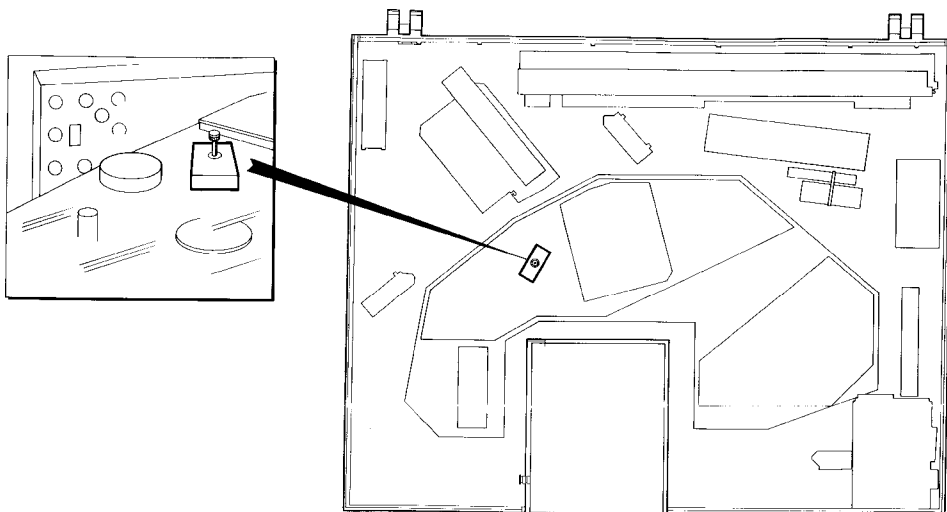

Figure 5 The Scan Mirror Clamp
12. Loosen the shipping clamp on the scan mirror by turning the bolt counterclockwise (Figure 5). Loosen the bolt until it no longer turns easily and the scan mirror becomes free to move.